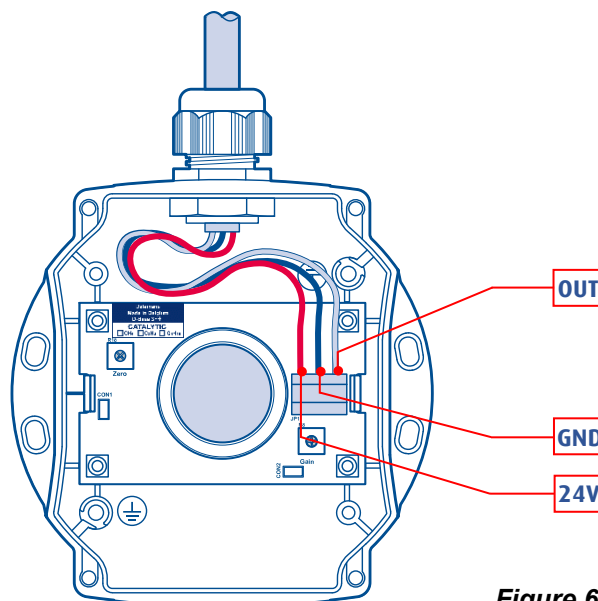

Figure 6: Connection of the D•TEX3F+
- Insert the new card into the box and reconnect the cable as indicated in Figure 6.